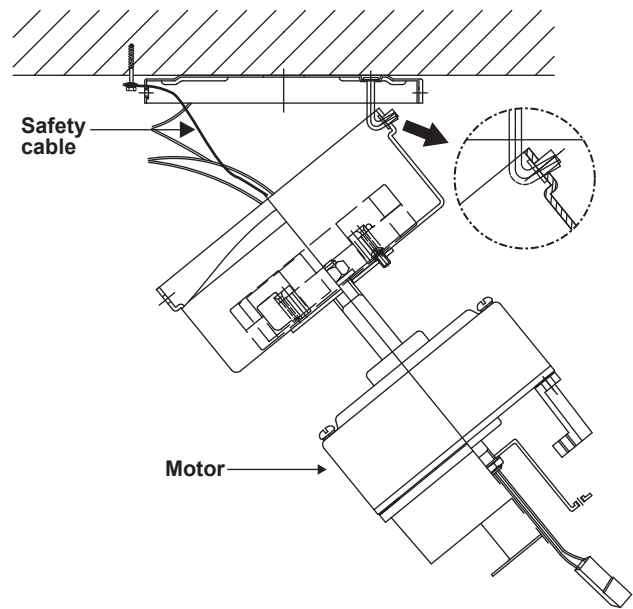

Figure 5
Step 3. Lift fan into position by hanging the motor assembly onto the hook from the mounting bracket allowing it to hang freely (Fig. 5).
Step 4. An additional safety support is provided to prevent the fan from falling. Secure the safety cable to the ceiling joist with screw and washer. (Fig. 5)